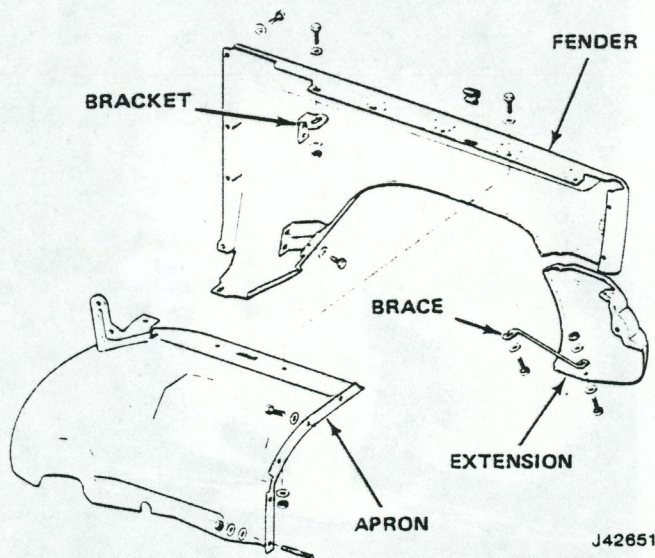

Fig. 3F-12 Front Fender—Cherokee-Wagoner-Truck Models
- (1) Remove front bumper.
- (2) Remove headlamp to gain access through opening.
- (3) Reach through headlamp opening and remove bolts and washers attaching fender to grille face panel.
- (4) Remove side marker lamp reflector lens and disconnect lamp socket assembly from lens.
- (5) Remove bolts and washers attaching fender to grille face panel.
- (6) Disconnect brace at fender (fig. 3F-12).